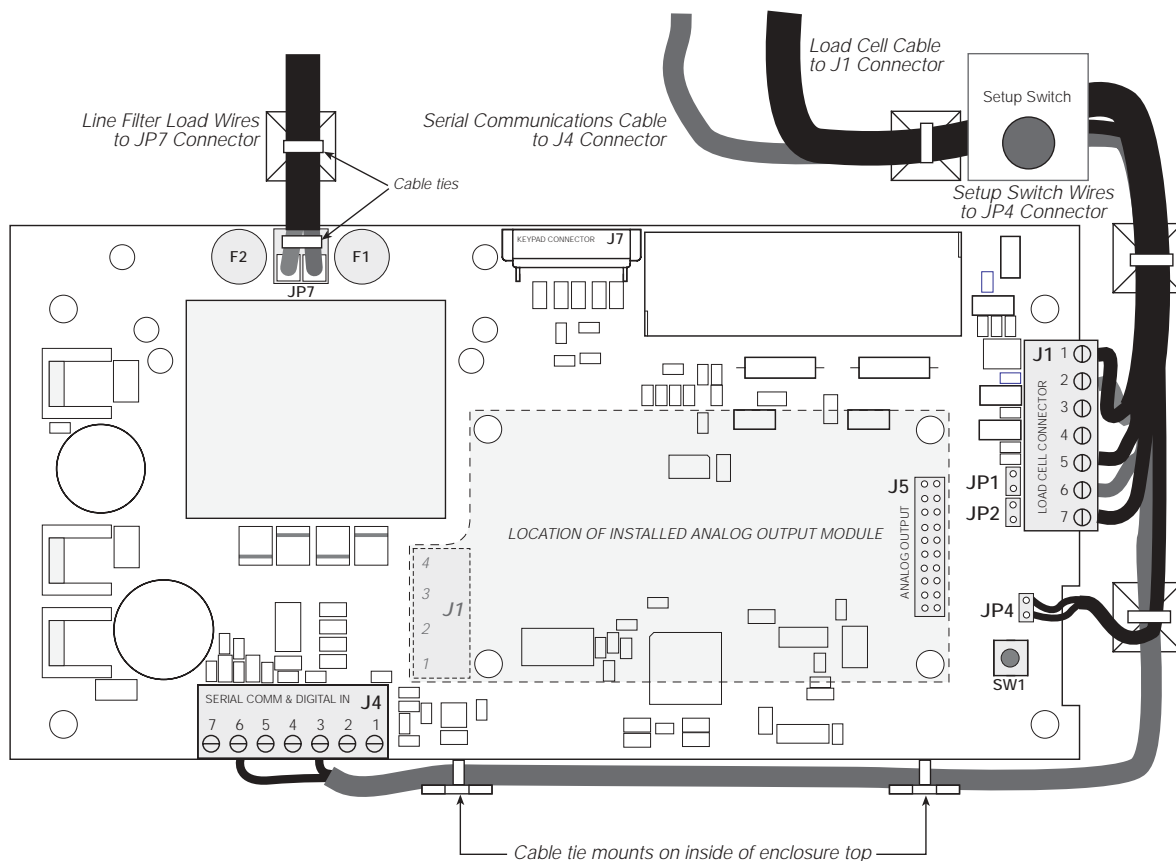
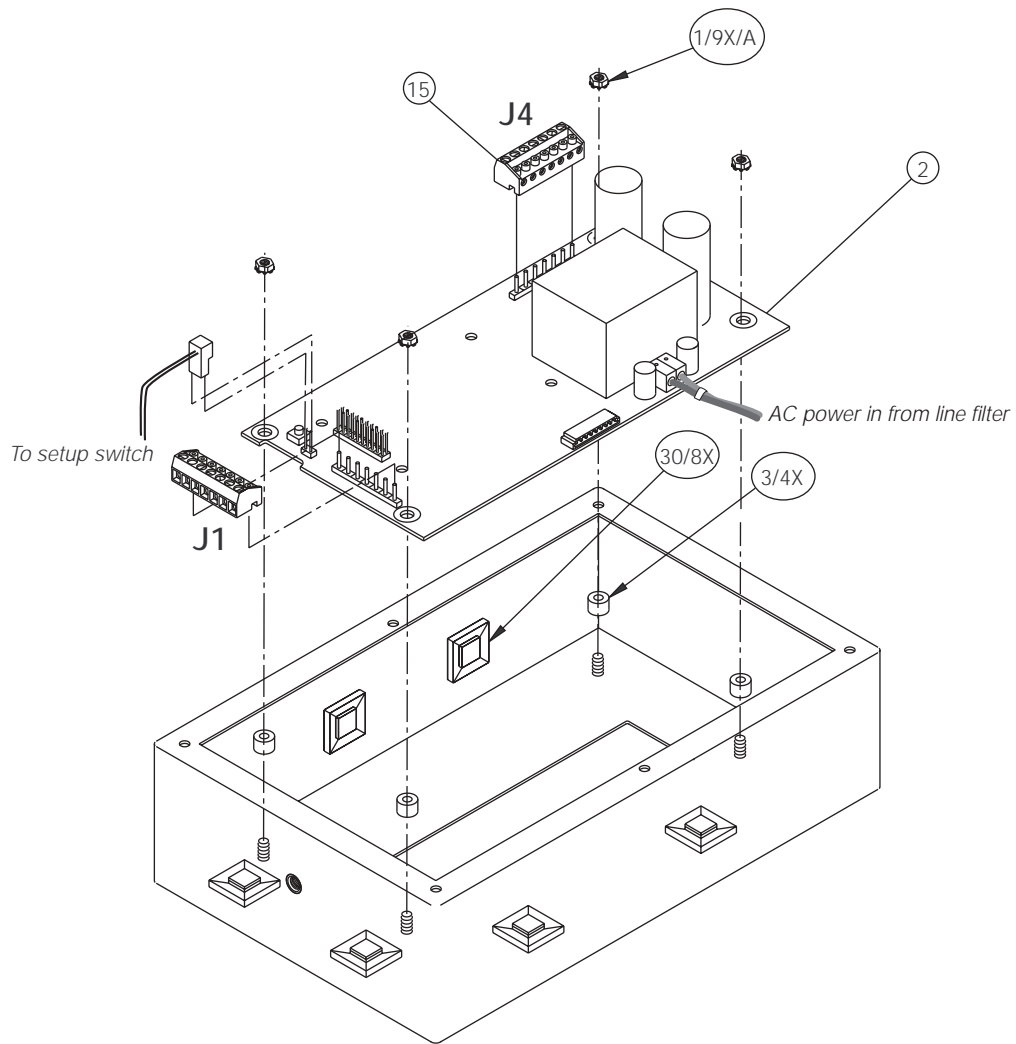

Figure 2-2. IQ plus 350 CPU and Power Supply Board, Showing Installed Cables and Cable Ties
Figure 2-6. IQ plus 350 Enclosure and CPU Board
To attach cable from a load cell or junction box, remove connector J1 from the board. The connector plugs into a header on the board as shown in Figure 2-6 on page 10.
Wire the load cell cable from the load cell or junction box to connector J1 as shown in Table 2-1. If using 6-wire load cell cable (with sense wires), remove jumpers JP1 and JP2 before reinstalling connector J1 (see Figure 2-2). For 4-wire installation, leave jumpers JP1 and JP2 on.
When connections are complete, reinstall connector J1 on the board and use two cable ties to secure the load cell cable to the inside of the enclosure as shown in Figure 2-2.
Once cables are attached, reconnect J4 to the header on the board (see Figure 2-6 on page 10). Use cable ties to secure serial and digital input cables to the inside of the enclosure as shown in Figure 2-2 on page 5.
2. Unplug connectors J1 (load cell cable), J4 (serial communications and digital inputs), J7 (keypad ribbon cable), and JP4 (setup switch). If an analog output board is installed, disconnect the analog output cable. See Figure 2-2 on page 5 for connector locations.
4. Cut the cable tie that holds the line filter load wires to the enclosure (see Figure 2-2 on page 5).
To replace the CPU board, reverse the above procedure. Be sure to reinstall cable ties to secure all cables inside the indicator enclosure (see Figure 2-2 on page 5).